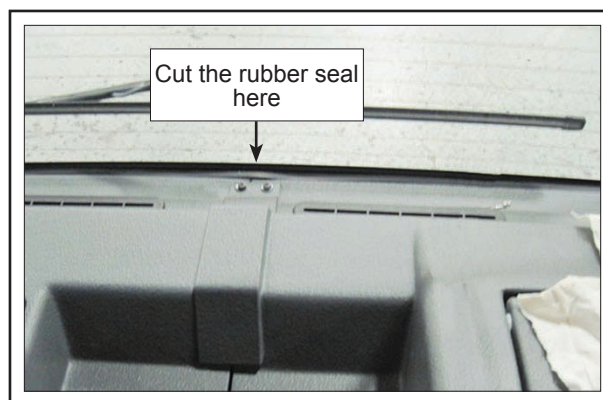

Figure 4 - Front of the Dash
- 1.4. Cut the rubber seal between the dash and the windshield. See Figure 4.